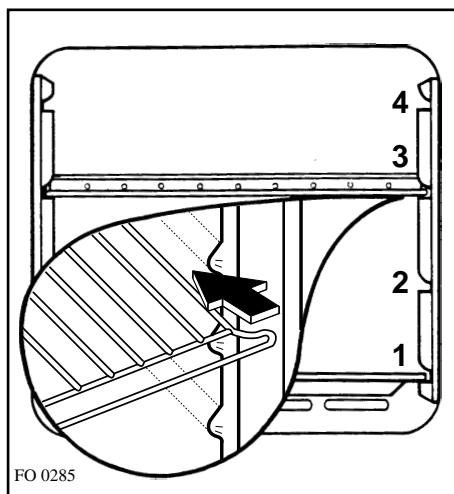

Fig. 8
**IMPORTANT: The anti-tip oven shelves must be positioned as shown in Fig. 8.**